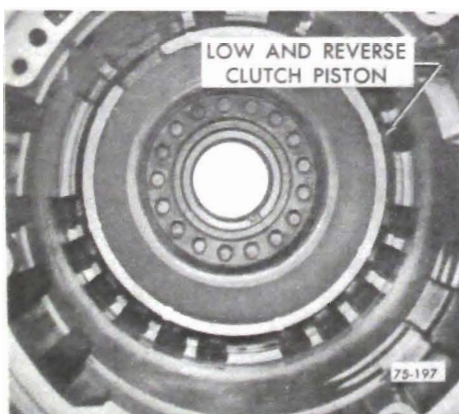

Figure 75-242
3. Install low and reverse clutch piston assembly with notch in piston installed adjacent to parking pawl. See Figure 75-242.